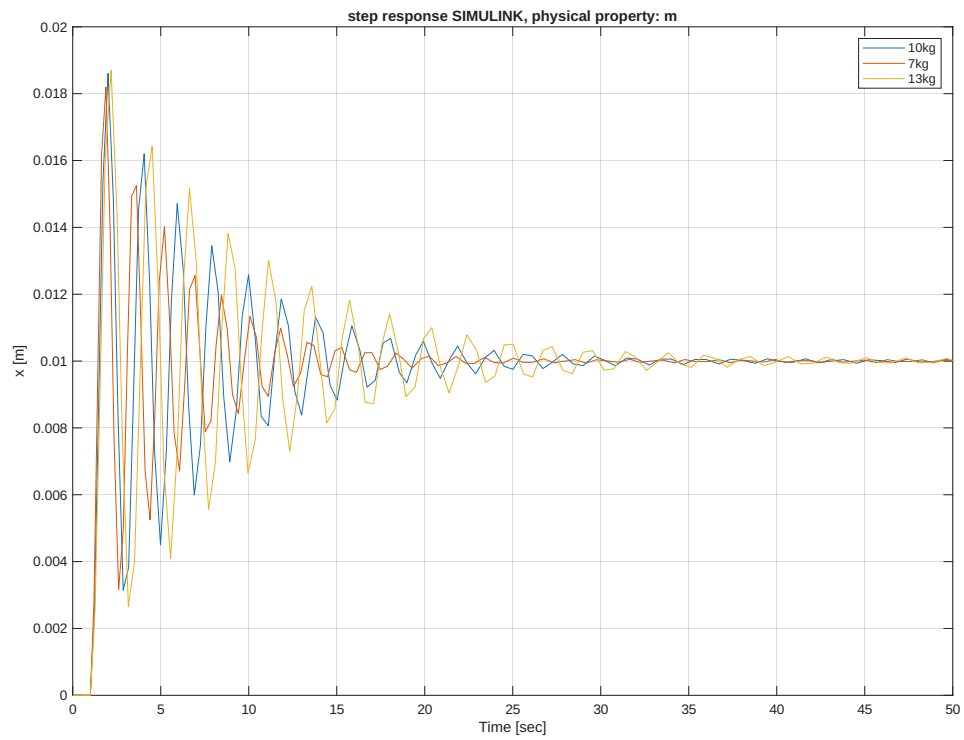

Figure 8: Step response with different values for mass.
**Influence of mass (m):** As shown in figure 8, changing the mass influences oscillation amplitude and interval. A reduced mass leads to shorter interval and smaller amplitude, while a mass increase leads to longer interval and larger amplitude.